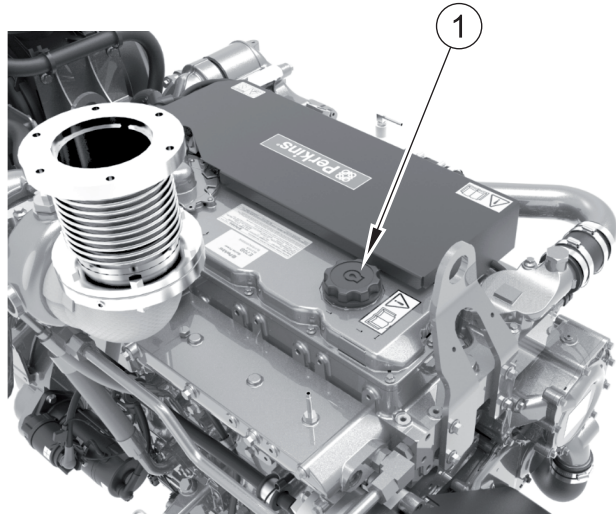

Figure 29
6. Remove the oil filler cap (figure 29 item 1).